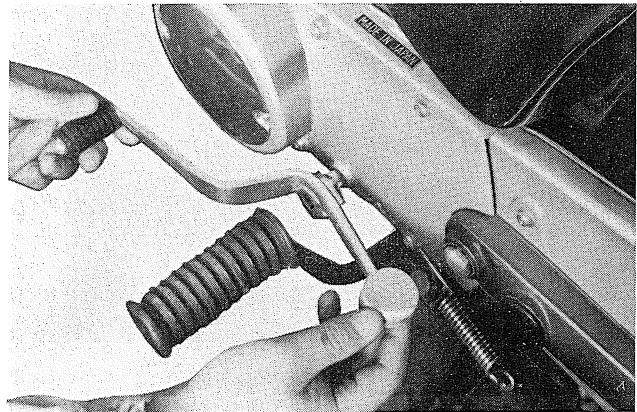

Fig. 3-1-4
3. Remove the change pedal. (Fig. 3-1-4)